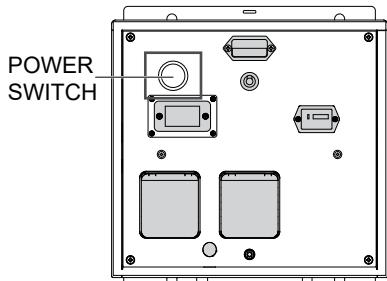

Figure 19. Battery Activation
1. Press and hold the power switch for three seconds. The panel lamp lights for 1 minute (Figure 19).